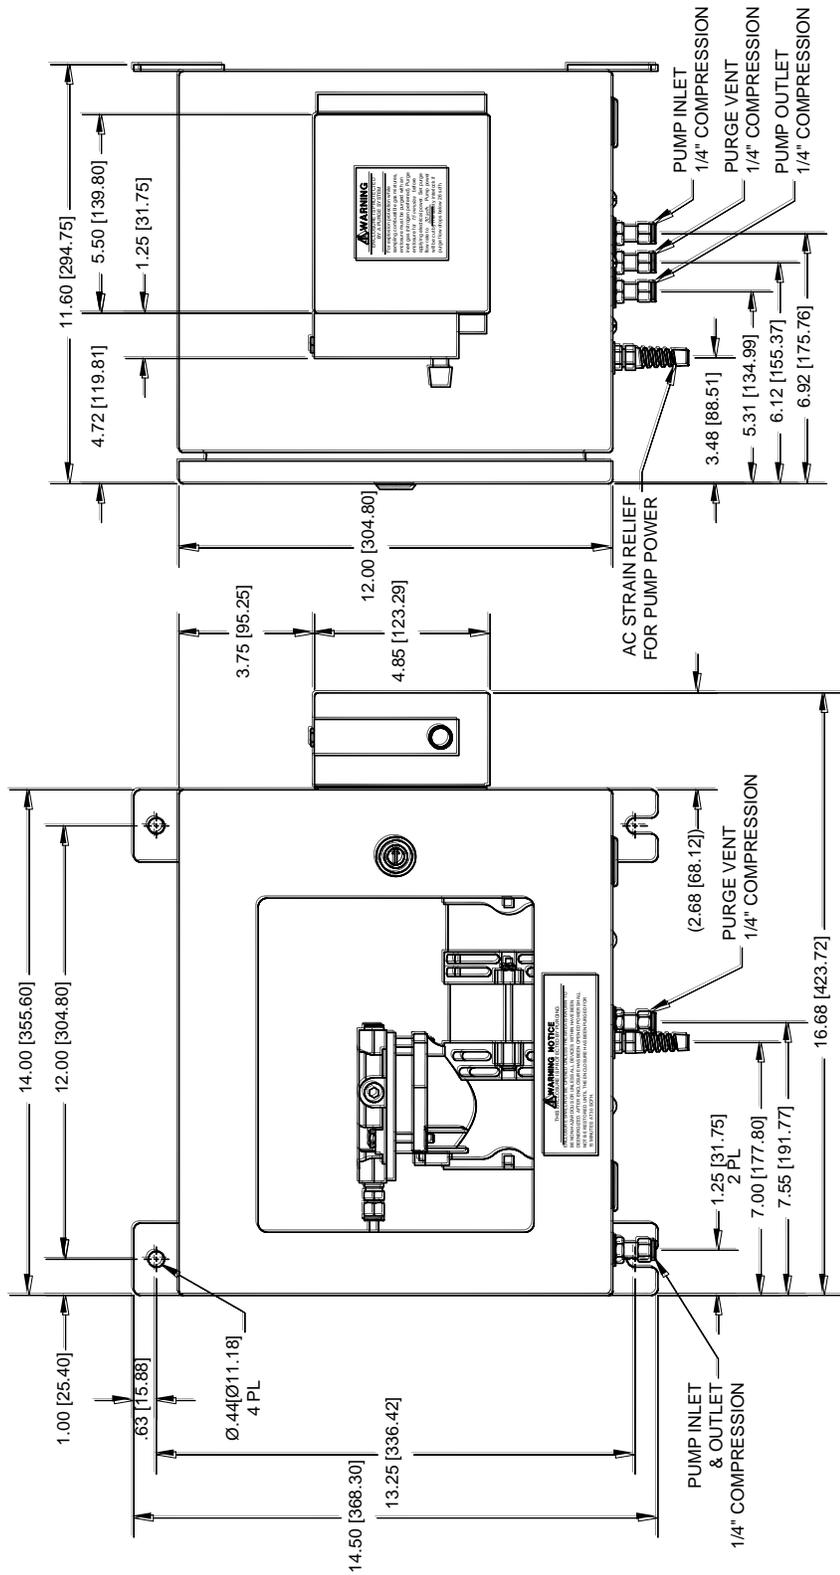

Figure 146: Pump Purge Option
- If equipped with a vacuum pump, **an enclosure** equipped with a nitrogen case purge is provided to maintain a safe condition. In addition, an interlock is provided to detect and react to loss of Nitrogen purge flow. See Figure 146 on page 178.
- If the analyzer has the optional vacuum pump, the pump enclosure must be mounted to a nearby wall or inside the rack shared by the analyzer. See Figure 146 on page 178.